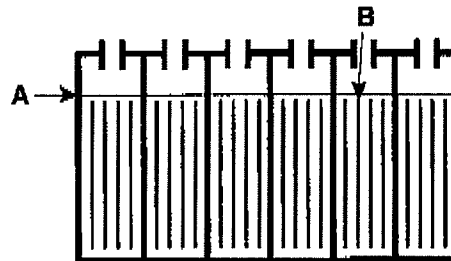

FIG. 33
4. Before charging, check the fluid level (A) in each battery cell. If the battery plates (B) are exposed, add just enough distilled water to cover plates. DO NOT OVERFILL. Overfilled batteries can overflow during charging due to fluid expansion. Replace cell caps before charging (Figure 33).